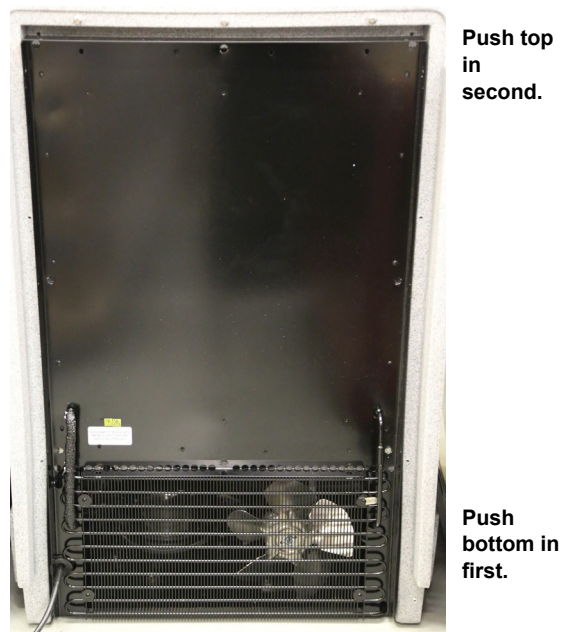

Figure 27: Slide module into place
- 21. Install the module, tipping the top back while sliding the bottom forward. When the bottom of the system is in place, push the top into place (Figure 27). Ensure the slack in the power cord is removed before securing refrigeration module frame.